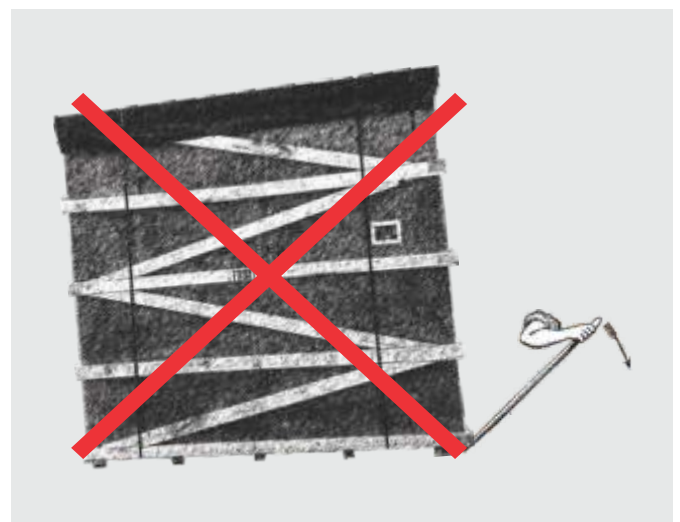

Figure 31 - Chain marks on packed Tus
- Centre of gravity indicators and chain marks are provided on the TU as shown in Figure 31.